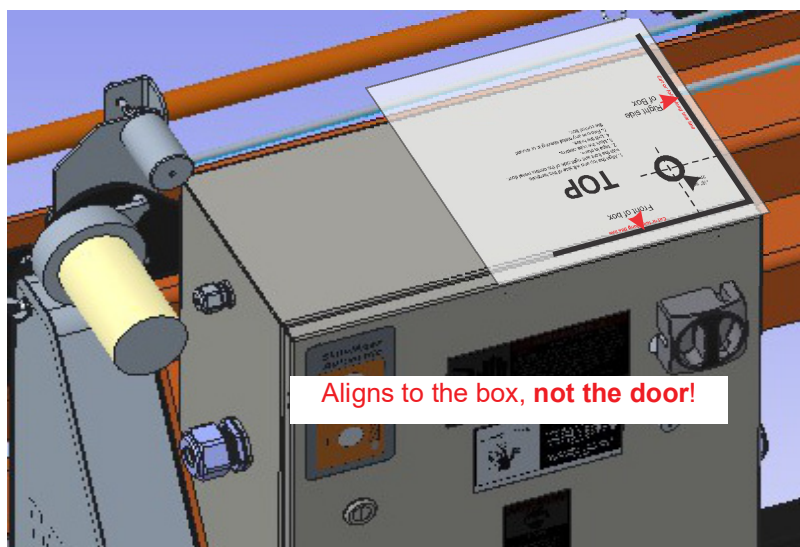

FIG. 5
- 4. Use the step drill bit to drill one hole through the control box top as shown in FIG. 5.